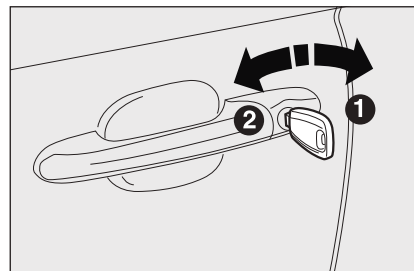

fig. 43
**To open**, insert the key in the lock and turn it to the position **I**-fig. 43. When the key is turned the doors and the tailgate are simultaneously released.
**To lock**, insert the key in the lock and turn it to the position **2-fig. 43**. When the key is turned the doors and the tailgate are simultaneously locked.